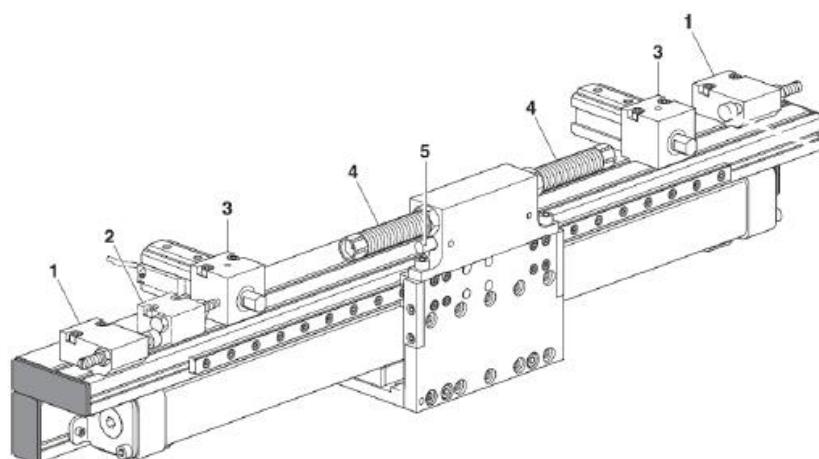

Fig. 23 Adjustment of stop screws PMP-c version 02
3. Adjust the stroke length using the end stops (Fig. 23, 1) and, if necessary, the fine adjustment (Fig. 23, 2).
4. Adjust the intermediate stops (Fig. 23, 3).
5. Adjust the shock absorber (Fig. 23, 2) (⇒ chap. 6.7).
6. Mount the proximity switches (Fig. 23, 3) (⇒ chap. 6.8)